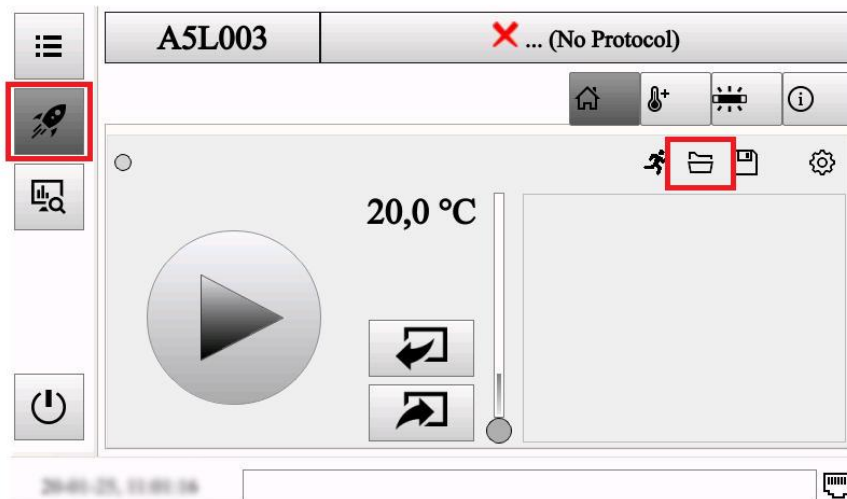

Figure 12 – Uploading a protocol in the Start window
1. In the Start window workspace, click the button **Open**  (Fig. 12):